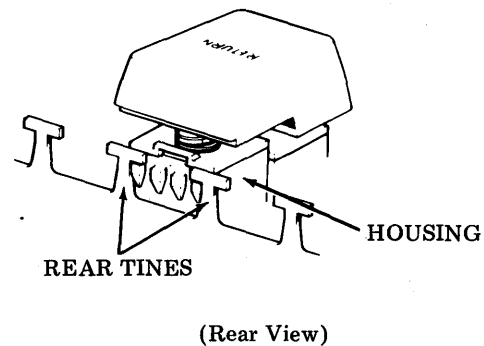

Fig. 8—Rear Tine Disengagement
- (1) Remove keys BACK SPACE, OVERLINE, GS, US, LINE FEED, SHIFT, and QUOTES that surround the RETURN key using 346260 tool.
- (2) Disengage the rear tines from housing with a small screwdriver while pulling the RETURN key up and toward the front (Fig. 8).